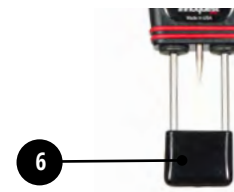

Fig. 1
Turn on the meter by pressing the POWER button (2) in Fig. 1. The display will first show the selected media and EC type. To change these settings, see **Changing The Media & EC Type**. Next, the display will show the battery life in a graphical representation and the meter’s serial number. The display then shows the current volumetric moisture content in %, the temperature in °F or °C, and the bulk or pore electrical conductivity (EC) value in milli-Siemens/cm. (1 mS/cm = 1 dS/m)